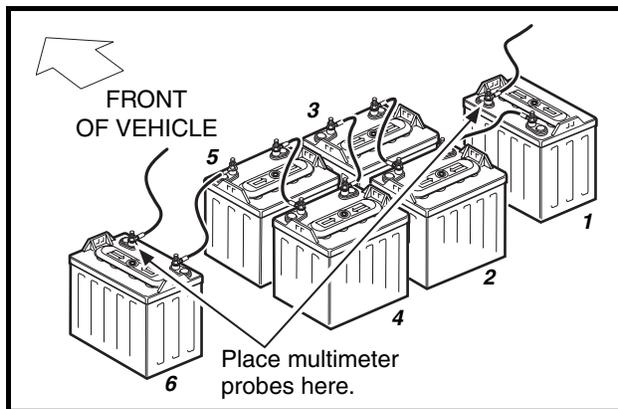

Figure 4-4 Battery Configuration – Carryall 6 and Transporter Vehicles
2. With a multimeter set to 200 volts DC, measure the voltage of the battery pack between the positive (+) post of battery no. 1 and the negative (–) post of battery no. 6 (**Figure 4-4, Page 4-9**). Normal no-load voltage should be between 50 and 52 volts for fully charged batteries. The voltage of the battery pack must be over 32 volts DC to allow the onboard computer to close the charger relay. If battery pack voltage is too low to start charger, temporarily bypass the charger relay. **See Charging a Battery Pack that has Low Voltage on page 4-28.**